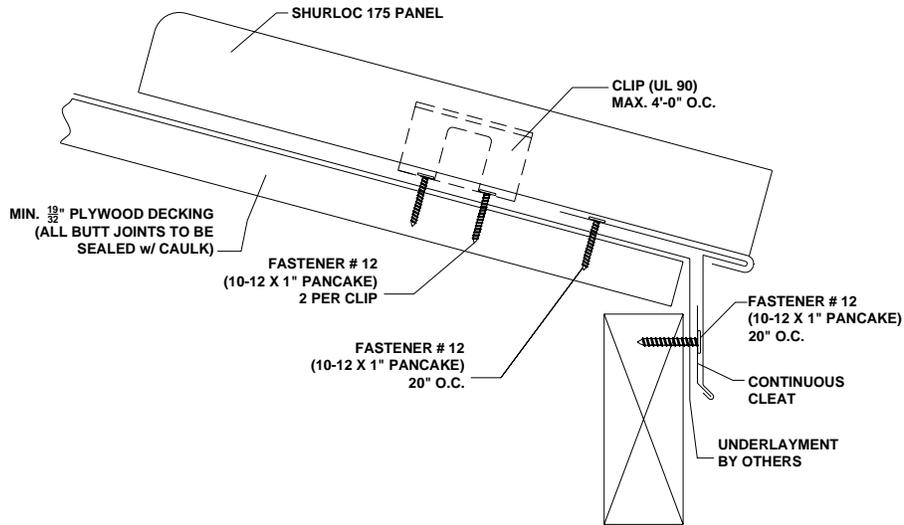

Figure 12: Eave Detail
**Eave Trim:** The eave trim shall be installed as shown in Figures 12 and 13.